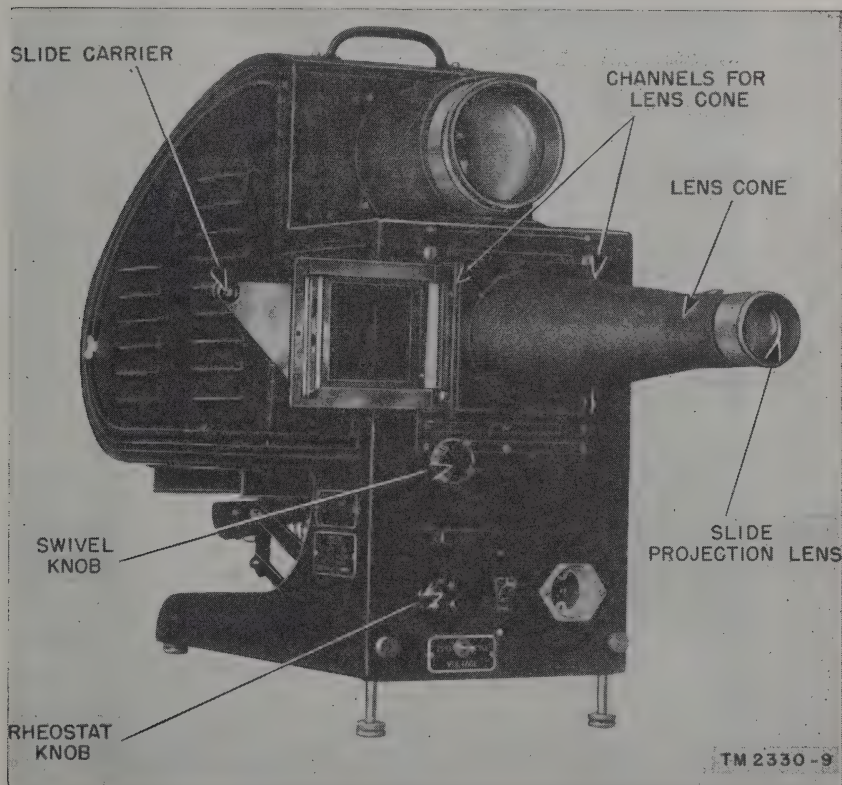

Figure 13. Projector assembled for projection of slides.
c. **ATTACHING CONE AND LENS FOR SLIDE PROJECTION.** The base of the lens cone is provided with a square mounting plate. To mount the cone, slide the mounting plate into the channels provided on the front of the condenser compartment (fig. 13), making sure that the spring on the small end is on top. Slide the cone all the
c. OPERATING SLIDES. (1) Insert the slide carrier into the slide carrier channels (fig. 13) and push it in as far as it will go.
(2) Arrange the slides in the desired projection sequence.
(3) Pull the slide carrier to the extreme right. Insert the first slide into the right-hand pocket of the slide carrier. Push the slide carrier to the left as far as it will go. The first slide is now in projection position. Throw the main switch to ON.